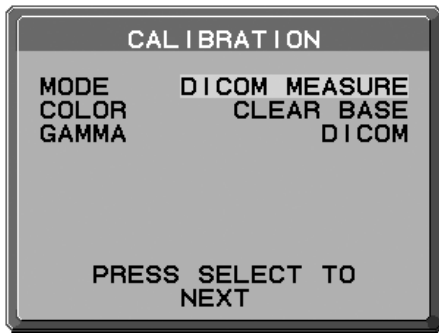

Figure 17
2. Select DICOM MEASURE in the Mode selection (**Figure 17**).